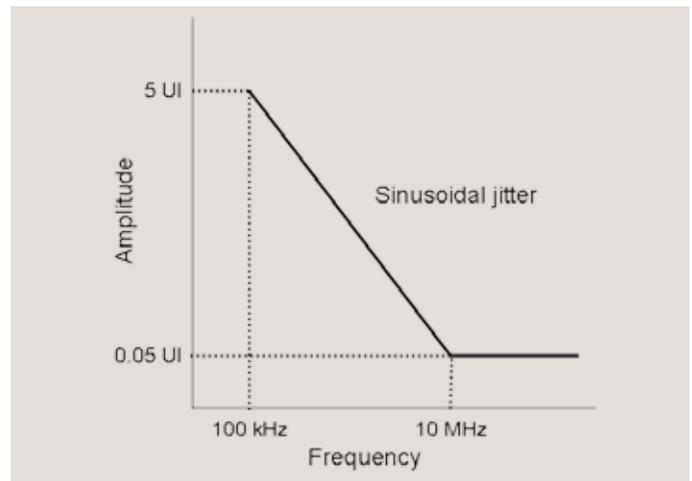

Figure 7. Sinusoidal Jitter stress template.
Apply Sinusoidal Jitter (SJ) to the pattern generator clock according to the template in Figure 7 to assure that the receiver can track low-frequency jitter.
Apply the stressed signal to the receiver, first with low amplitude SJ applied above the roll off frequency in the template of Figure 7. If the receiver operates at $BER \leq 10^{-12}$, then with all other stresses applied, continue the tests across the SJ frequency-amplitude template in Figure 7. It’s automatic with the BERTScope’s Jitter Transfer Measurement function.
SJ at frequency above roll off in Figure 7	0.05 UI
BER for any SJ amplitude and frequency in Figure 7	$\leq 10^{-15}$
Apply DJ, in addition to that of the compliance test board, by adding a low pass filter and 0.05 UI of SJ at a frequency just above the roll off in Figure 7.
Apply the stressed signal to the receiver first with low amplitude SJ applied above the roll off frequency, Figure 7. If the receiver operates at or better than the specified BER with its equalization scheme enabled and optimized, continue testing across the SJ frequency-amplitude template in Figure 7 to assure that the receiver can track low-frequency jitter, with all other stresses applied. It's automatic with the BERTScope's Jitter Transfer measurement function.